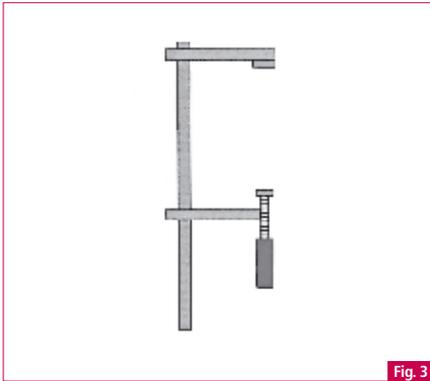

Fig. 3
- "Frown" warp. If the sheet deflects on the edges to the shape of a frown (Fig. 3) and if the warp is greater than 1.5 mm per metre (Fig. 3), contact your HI-MACS[®] supplier for inspection and product replacement if necessary.
- A few longer sash clamps. (Fig. 3)